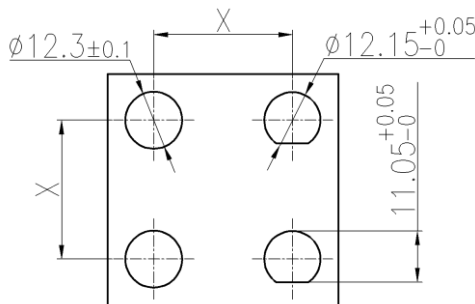

Figure 15
- ✧ 面板钻孔。钻孔的建议尺寸（如图 15），所有钻孔边缘的毛刺需要清除。我们建议，无论水平或垂直结构，间距值（X）至少要有 25mm（如图 15）。
Drill the panel wall. Recommended bore dimension see in the sketch (Fig.15), all burrs must be removed from the edges of all bores. For both horizontal and vertical mounting a spacing (X) of at least 25mm is recommended (Fig.15).